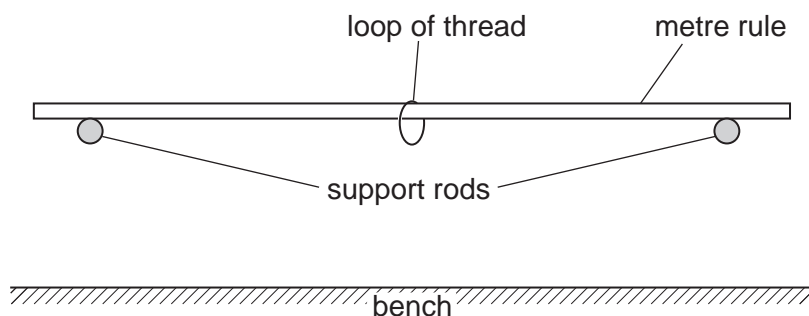

Fig. 2.1
1. The candidate will use the metal support rods to support the metre rule, as shown in Fig. 2.1.